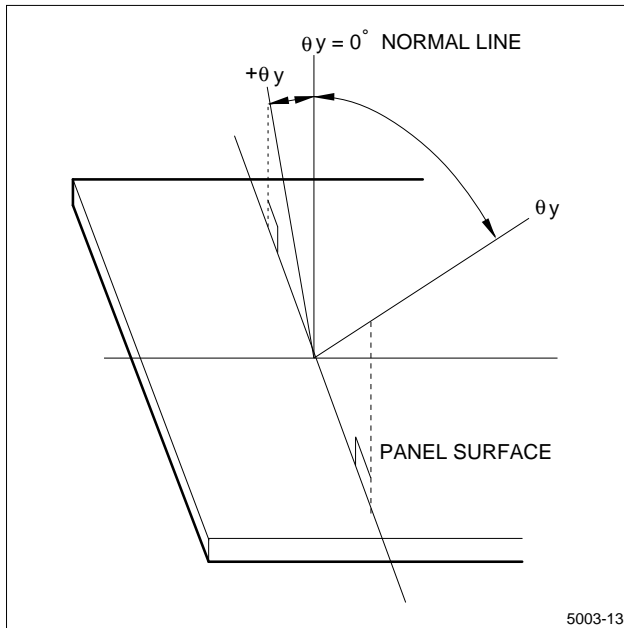

Figure 13. Dot Matrix LCD Viewing Angle
- Industrial (Mechanical) design of the product in which this LCD unit is incorporated must be made so that the viewing angle characteristics of the LCD are optimized. This unit's viewing angle is illustrated in Figure 13 and as follows: